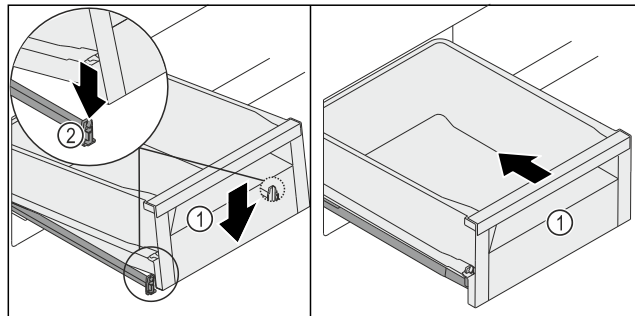

Fig. 125
- ▶ Lower the drawer Fig. 125 (1) at the front so that the drawer slides into the clamp Fig. 125 (2) on the left and right.
- ▶ The drawer Fig. 125 (1) locks in audibly.
- ▶ Push in the drawer Fig. 125 (1).